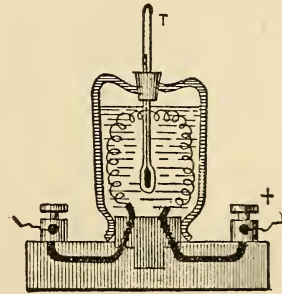

FIG. 44. ELECTRIC CALORIMETER.
heat that is produced in any conductor, or in any piece of electrical apparatus in a given time, a device known as an electric calorimeter is employed. This device, as represented in Fig. 44 (Houston's Dictionary of Electrical Words, Terms, and Phrases), consists of a vessel capable of holding a certain quantity of water, say one pound, and provided with a thermometer (T). The electric discharge or current passes through a coil of wire that is immersed in a given quantity of water and the amount of heat produced is determined by the increase in temperature. The amount of heat produced is proportional to the resistance of the conductor, and to the time the current is passing. When the resistance of the circuit remains the same, it is proportional to the square of the current strength.